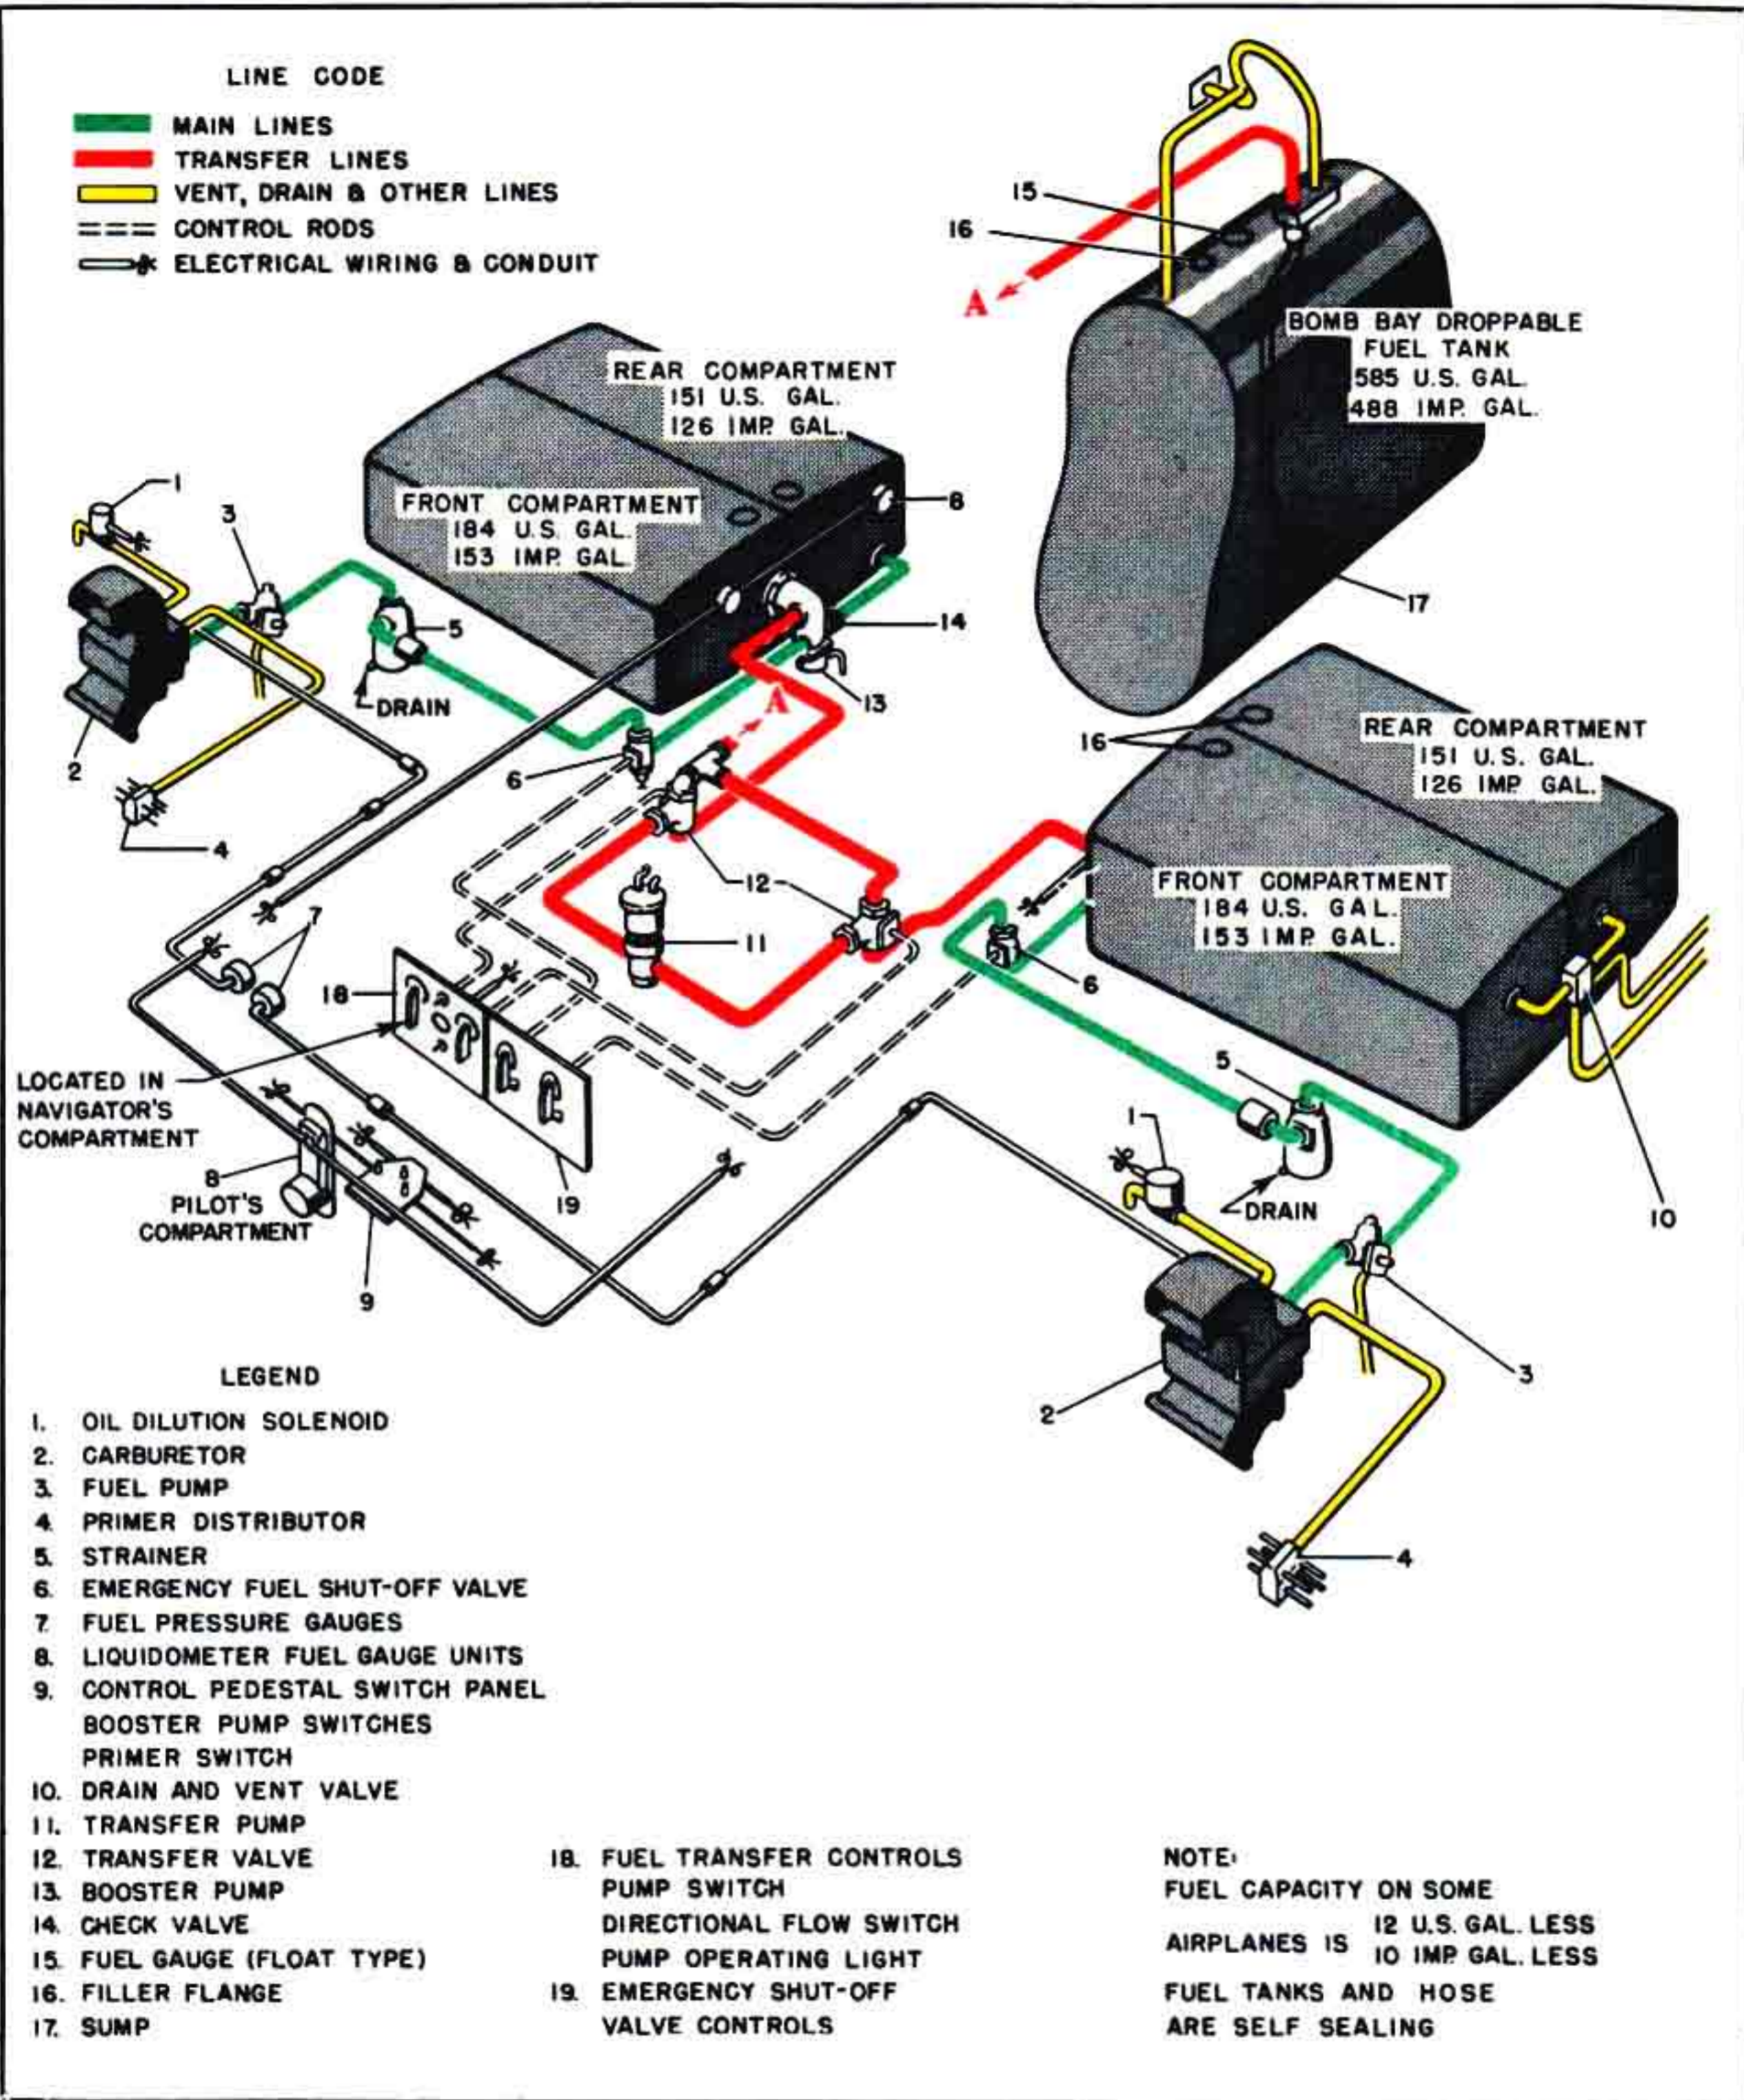

Figure 7—Fuel System—Early Airplanes
a. GENERAL.—An independent fuel system is provided for each engine. (See figures 7 and 8.) The main source of fuel supply is from four large self-sealing wing tanks, two located in each wing center section between the fuselage and the engine nacelle. Later airplanes have an auxiliary fuel supply, consisting of six smaller self-sealing tanks installed in groups of three in each wing center section outboard of the main fuel tanks. Additional fuel for ferrying operations on earlier airplanes is carried in a droppable bomb bay tank. On later airplanes, a fixed self-sealing tank in the upper portion of the bomb bay and a small droppable bomb bay tank are used for ferrying operations. The fuel flow is from the main tank, through a booster pump to a fuel strainer, then to the engine-driven fuel pump which delivers the fuel to the carburetor. Fuel transfer and fuel cross-feed systems are installed on later airplanes. All transfer and main feed lines are of the self-sealing type.